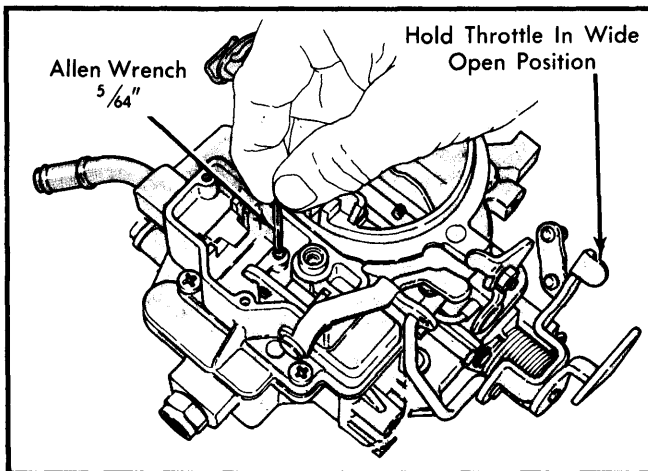

Fig. 7 Adjusting Mechanical Power Valve
1) Remove bowl vent valve cover, spring and retainer. Now remove vent valve lever and pivot pin. Hold throttle lever in wide open position. See Fig. 7.